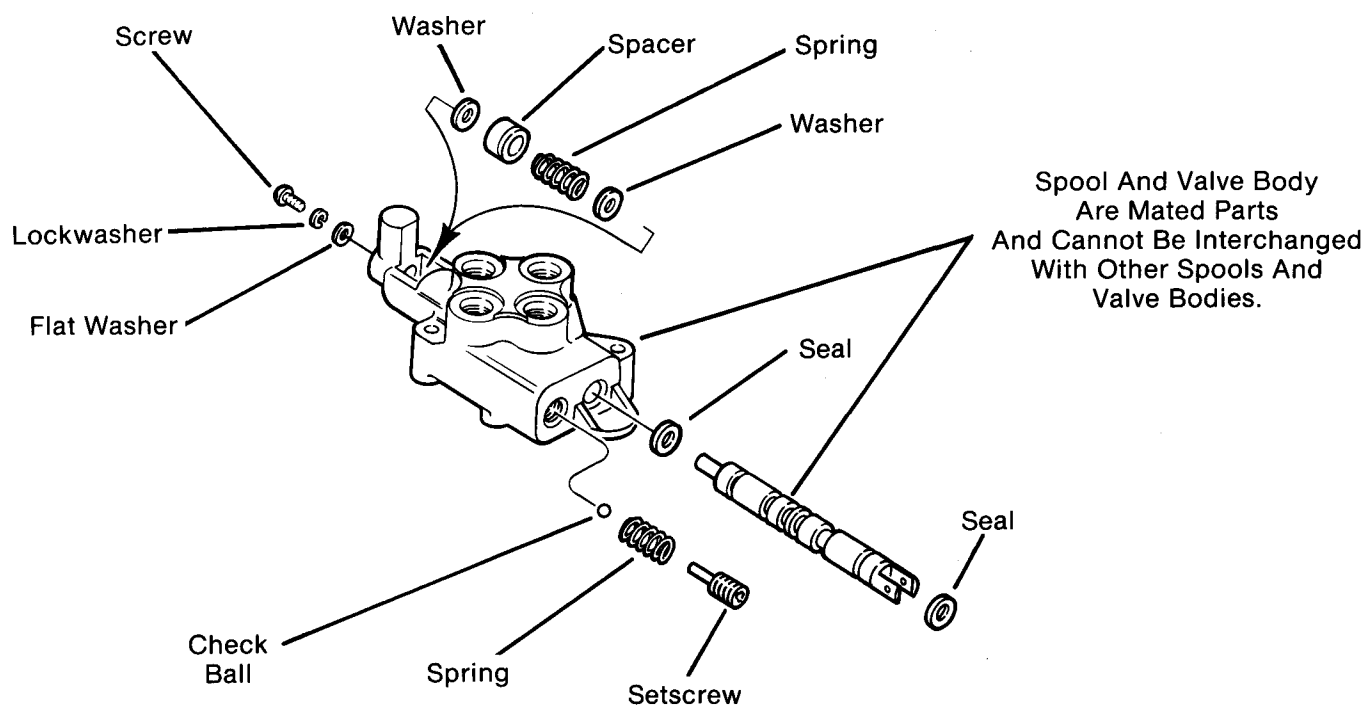

FIG. 94
- H. Service lift valve as required. Clean off lift valve prior to disassembly. (Fig. 94)